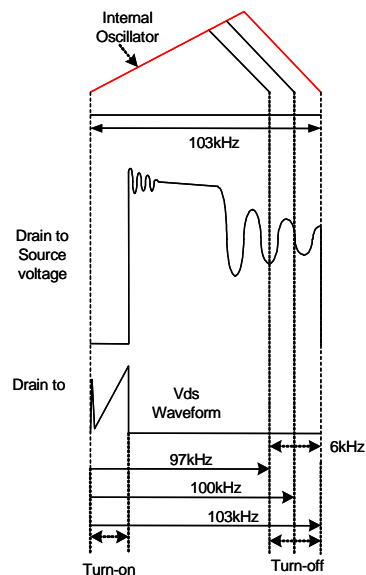

Figure 11. Frequency Modulation Waveform for FSDH321
7. Frequency Modulation : EMI reduction can be accomplished by modulating the switching frequency of a switched power supply. Frequency modulation can reduce EMI by spreading the energy over a wider frequency range than the band width measured by the EMI test equipment. The amount of EMI reduction is directly related to the depth of the reference frequency. As can be seen in Figure 11, the frequency changes from 97KHz to 100KHz (from 48.5KHz to 51.5KHz ; FSDL321) in 4mS for the FSDH321. Frequency modulation allows the use of a cost effective inductor instead of an AC input mode choke to satisfy the requirements of world wide EMI limits.